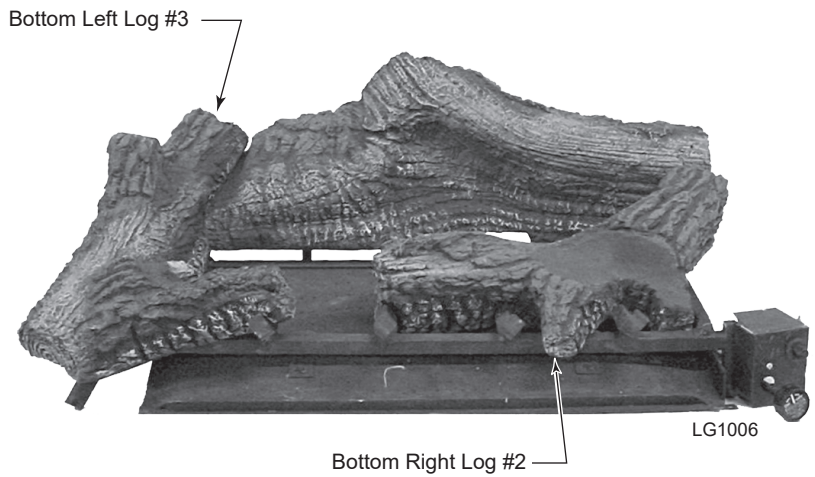

Figure 37
2. Place bottom right log (#2) on right side of grate in front of back log. *Figure 37*
3. Place bottom left log (#3) on left side of grate in front of back log. *Figure 37*